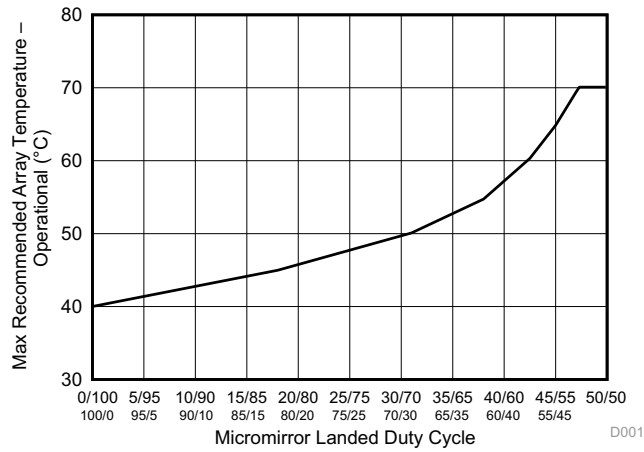

Figure 1. Maximum Recommended Array Temperature – Derating Curve
- (13) Per Figure 1, the maximum operational array temperature should be derated based on the micromirror landed duty cycle that the DMD experiences in the end application. Refer to Micromirror Landed-On/Landed-Off Duty Cycle for a definition of micromirror landed duty cycle.
- (14) Long-term is defined as the usable life of the device
- (15) Short-term is the total cumulative time over the useful life of the device.